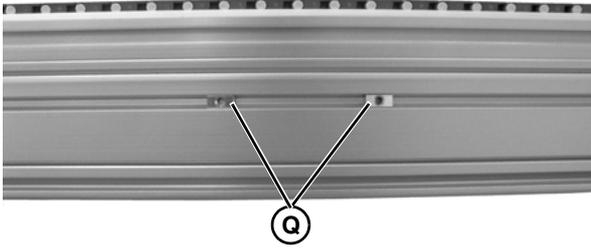

Figure 12
2. Install T-bars (Figure 12, item Q) in 2200 Series, 3200 Series or 5200 Series conveyor T-slots.